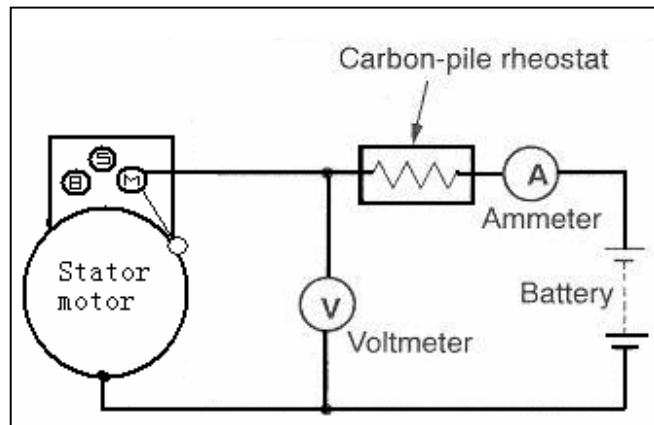

Fig. 9-8
4)Free running test (see Fig.9-8)